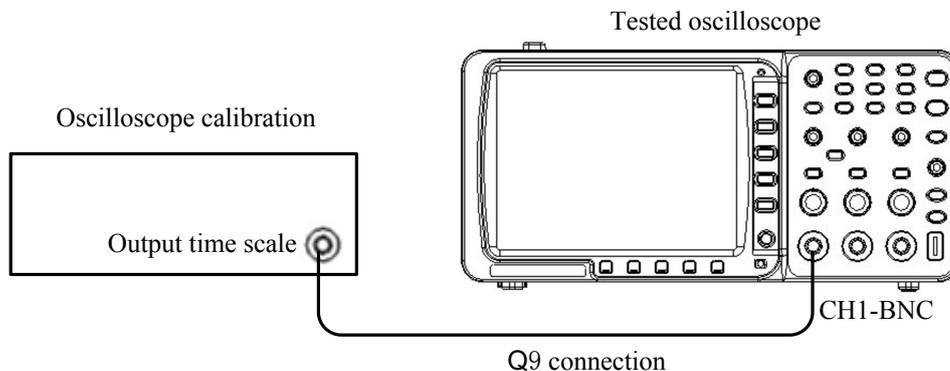

Figure 1: Connection of sweep rate and error inspection
A. As shown by Figure 1 connected